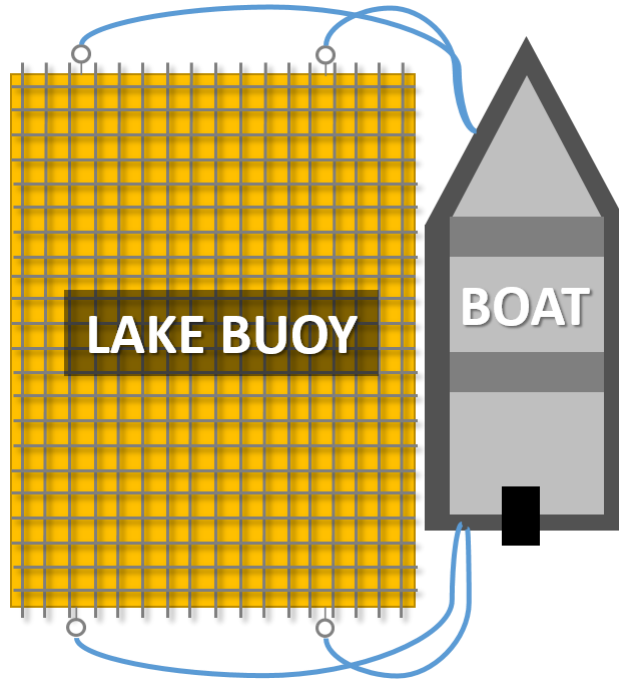

Figure 26. Recommended Towing Technique
- a. Figure 26 provides an example for towing the AIS Lake Buoy to maintain the most control over it on the water. Other methods have proven